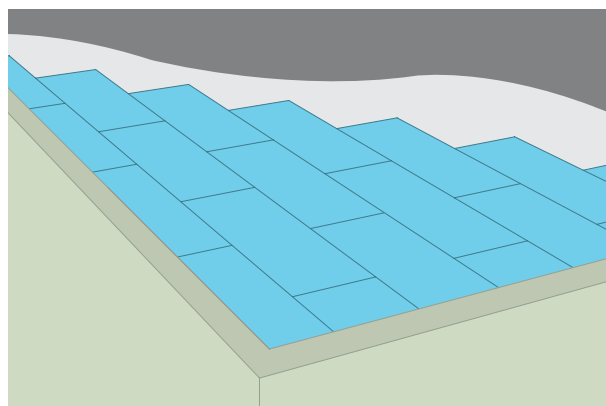

Figure 15
3. Lay ROOFMATE SL-X insulation boards in brick pattern with shiplap edges pushed together firmly (Figure 15).